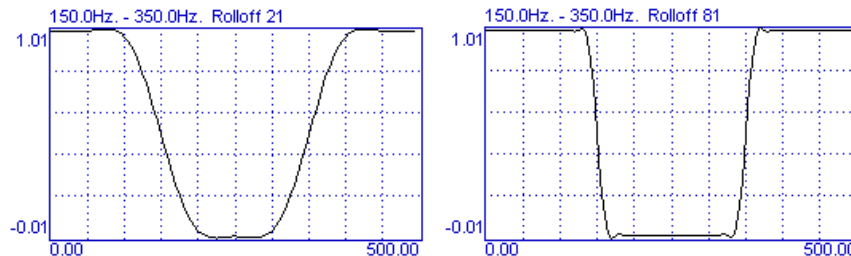

Figure D-41. Response profiles of two band stop FIR filters, both with the same cut-off frequencies but with different rolloff efficiencies.
0.5. Those slightly above or below the cutoff frequencies are passed with a gain of less than 1.0 but greater than 0.0. The steepness of the curve around the cutoff frequencies represents the filter's **Rolloff** characteristics. In Datapac 2K2 a FIR filter's rolloff is determined by the number of components in the frequency algorithm. The greater the number of components the better the rolloff. The response profiles of two band stop FIR filters are shown in Figure D-41. Both of them have the same cutoff frequencies (150 Hz and 350 Hz), but the one on the left has a rolloff of 21 components while the one on the right has a rolloff of 81 components.